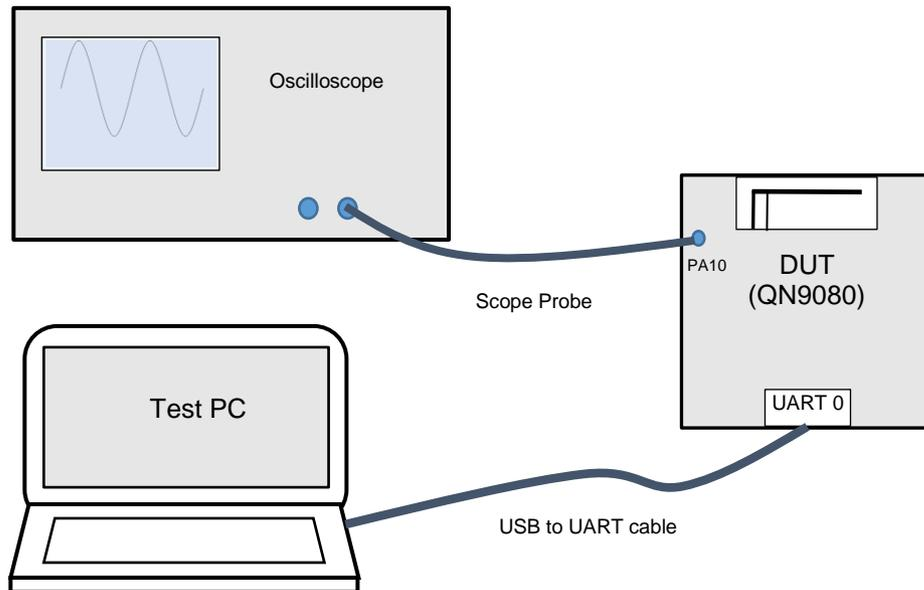

Figure 4 Hardware Setup for Low Frequency Crystal Calibration
The hardware setup is illustrated in figure 4 below.
1. Setup the hardware connection as illustrated in figure 4.